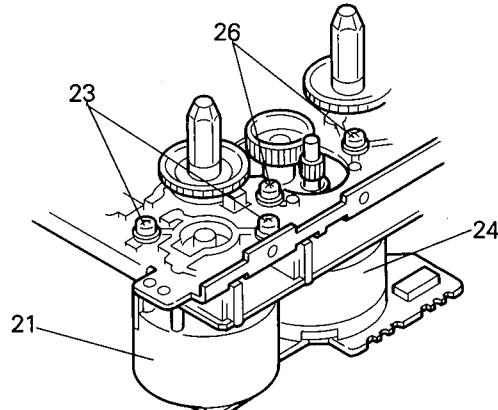

Fig. 5-48
■ Reel and Actuator motor assembly (Fig. 5-48, 49)
1. Remove four screws (23, 26) retaining the reel motor (21) and the actuator motor assembly (24). (Fig. 5-48)